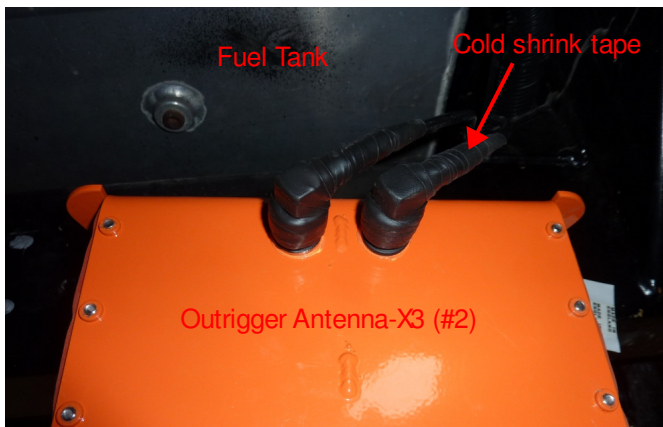

Figure 13: Outrigger Antenna with N-type connectors attached and wrapped with cold shrink tape (not yet mounted)
- Attach the Type-N connectors on the antenna cables to the outrigger antenna and tighten to 15 in-lbs of torque, angling the connectors slightly for easier routing. Wrap each connector with the supplied Cold Shrink Black Tape (#6), a.k.a. vulcanizing tape, to sufficiently cover the connector junction, as seen in figure 13. This acts as a moisture and temperature barrier at this interconnect.